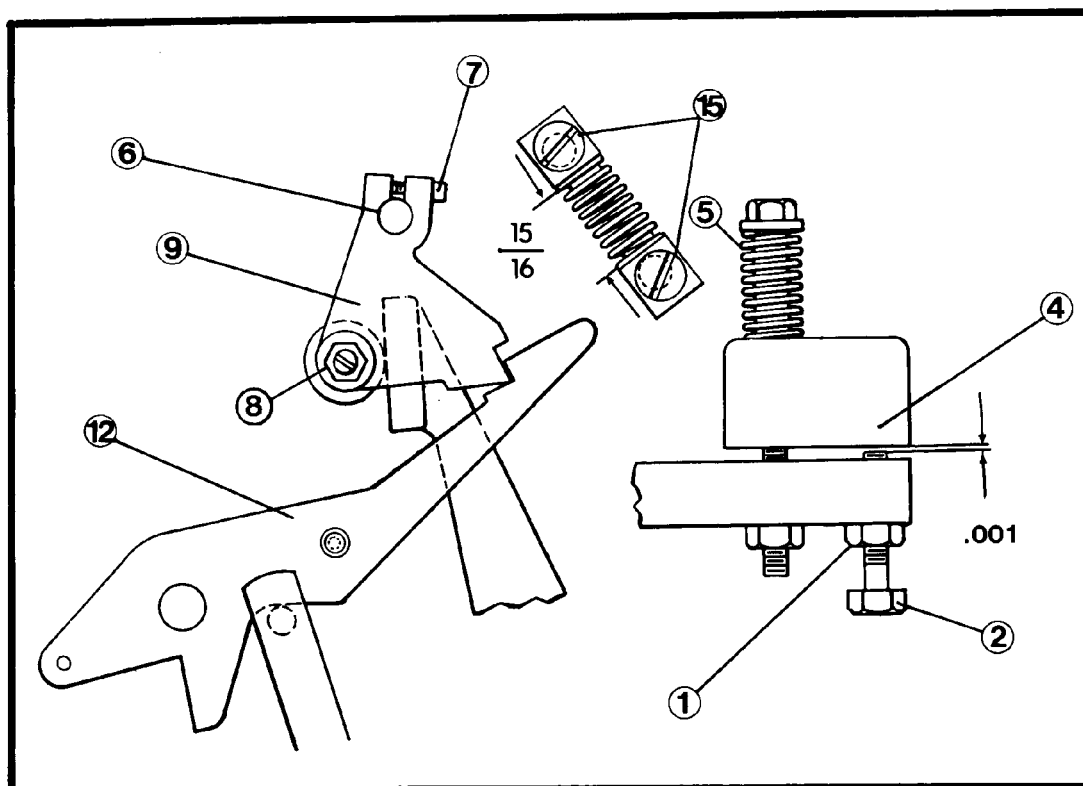

Figure 31 - Master Cylinder and Latch Lever
11. With the .0615" curved feeler gauges in place and the master cylinder latched, adjust both support arm springs (5) to 1-39/64" (see Figure 31).
12. Adjust screws (2) (both sides) for .000" between screws (2) and the stop blocks. Do not exceed the .000" tolerance.